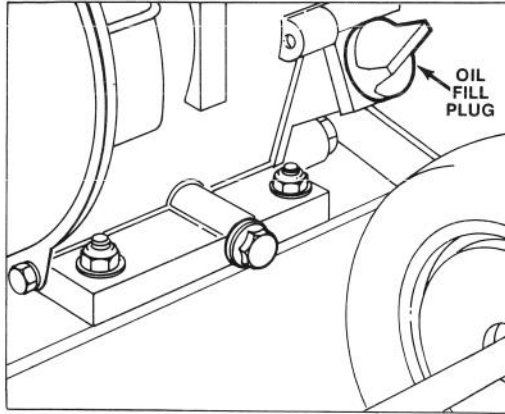

Figure 5
1. Position edger on level surface. Clean around oil fill plug (Fig. 5) and remove plug from engine.